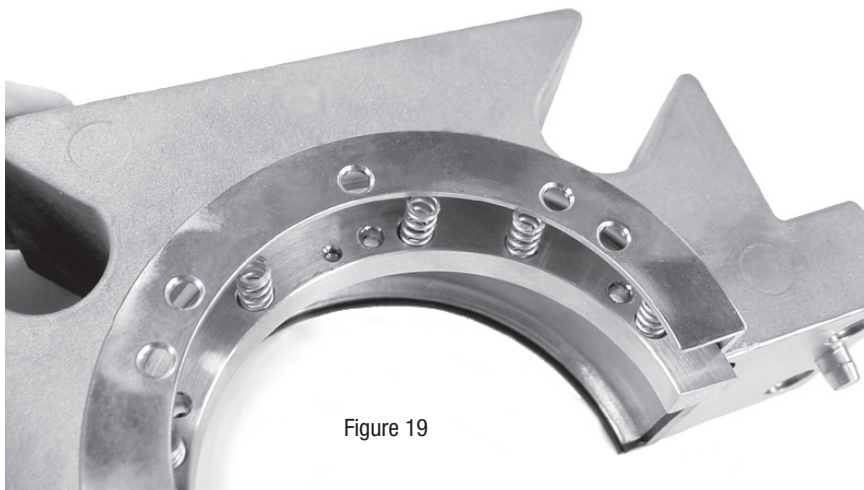

Figure 19
- 6.2 Set the gland half face down on the table and insert half of the spring holder into the gland. See Figure 19.
- 6.3 Set the gland half face down on the table and insert half of the spring holder into the gland. See Figure 19.